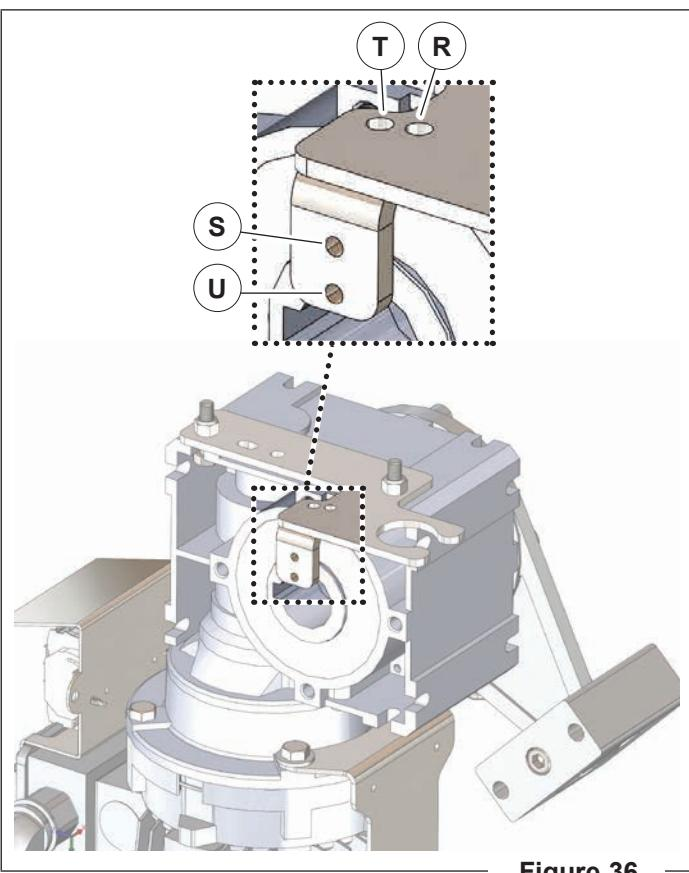

Figure 36
Use the rear top hole (R) and top side hole (S) (**Figure 36**).